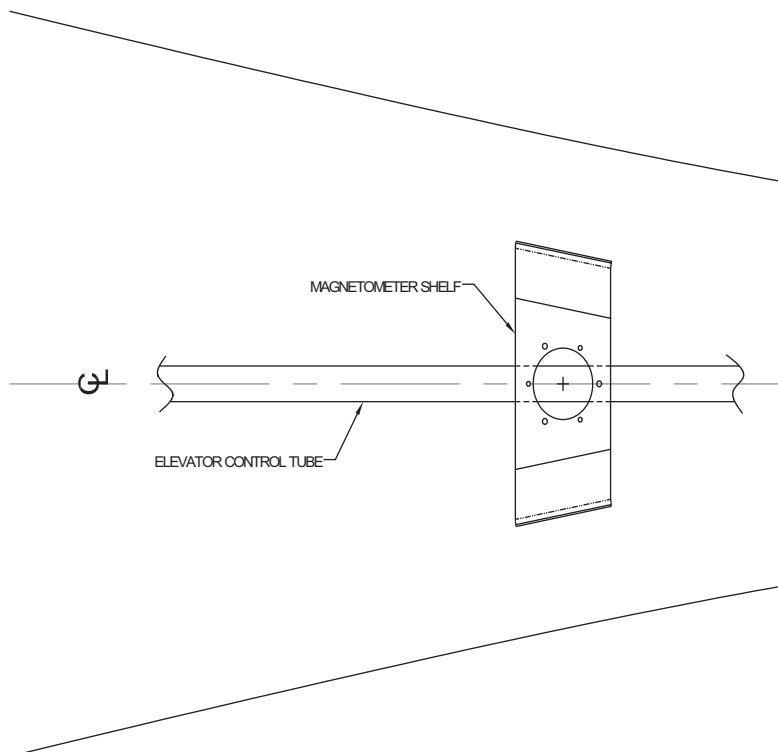

Figure B-24 Alignment Of Magnetometer Cutout With Aircraft's Forward Direction
- The shelf installation must be fully cured before proceeding with the magnetometer installation. Using the elevator control tube as the aircraft centerline reference, project a parallel line on to the magnetometer shelf. The parallel line serves as an indication of the aircraft's forward direction, as shown in Figure B-24. The alignment of the magnetometer is critical and needs to be within 0.5° of the aircraft's forward direction.